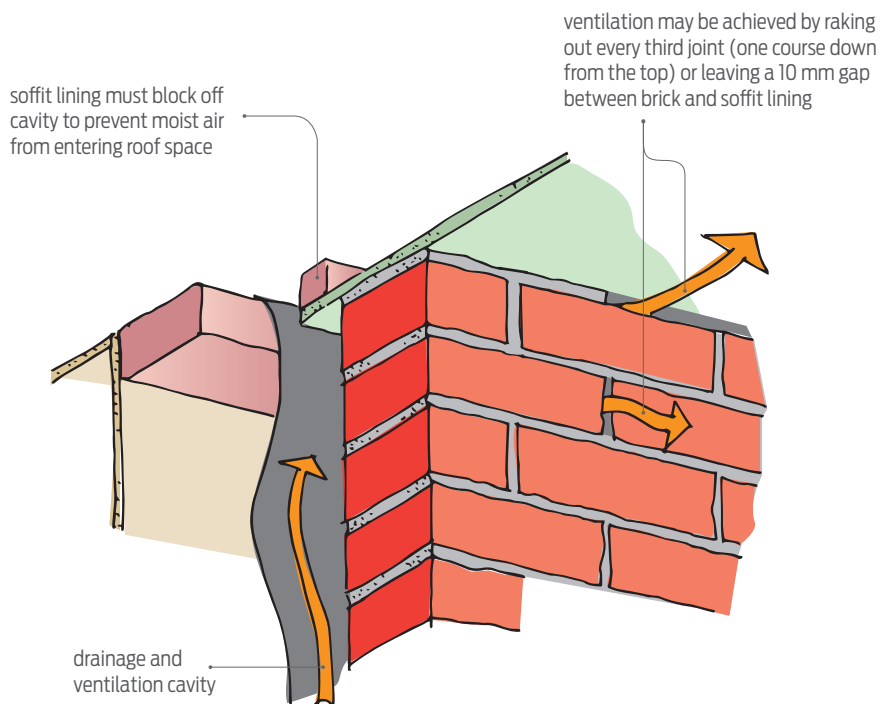

Figure 1: Gap left open at top of brick veneer for ventilation.
- at the top of brick veneer to allow for ventilation - either every third perpend (one course down) being left open (see Figure 1) or a 5 mm gap to a soffit